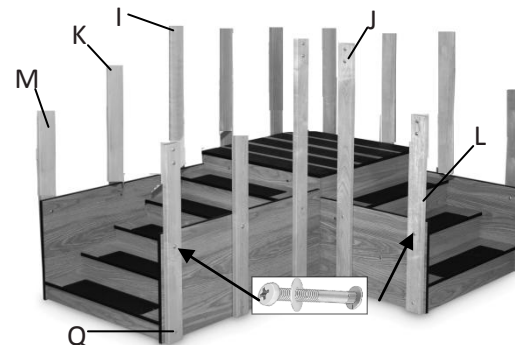

Figure 6: Base with all Uprights
6. Attach uprights (‘I’, ‘K’ & ‘M’ respectively) onto the 6-Step section, by matching up the dots on the upright with step section using six Hex head bolts ‘Q’ on the bottom of the uprights and two on the top of the 5th step, and four Pan Head/Philips screw ‘R’ with Flat Washer ‘U’ and Barrel Bolt ‘S’ on the rest as shown in Figure 6.
7. Attach uprights (‘J’ & ‘L’ respectively) onto the 4-Step section using four Hex head bolts ‘Q’ on the bottom of the uprights and two on the top of the 3rd step, and two Pan Head/Philips screw ‘R’, Flat washer ‘U’ and Barrel Bolt ‘S’ on the rest as shown in Figure 6.